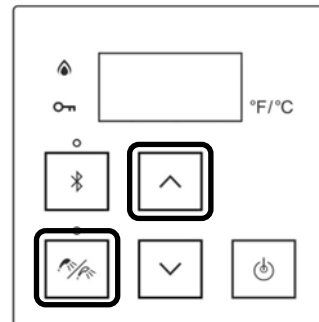

Figure 62
1. To lock the integrated controller, press and hold down the "Priority" button (Figure 62).
2. While holding down the "Priority" button, press the up arrow button (Figure 62) until a beep is heard (approximately 5 seconds). Then, release both buttons at the same time.